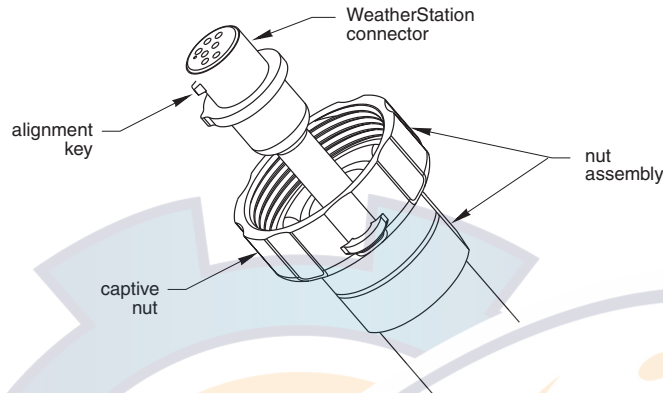

Figure 5. Connector
6. With the nut assembly on the cable near the WeatherStation connector, thread the cable through the extension tube (if used), antenna mount, and the cable exit. Allow several inches of cable topped by the connector above the nut assembly (see Figure 5).
9. **Be sure** the alignment tabs on the WeatherStation are facing forward and parallel to the keel (centerline) of the boat (see Figure 4). Slide the captive nut upward and screw it onto the base of the WeatherStation (see Figure 5). **Hand-tighten only.** Do not over tighten. **Be careful NOT** to rotate the WeatherStation or loosen the nut assembly from the antenna mount/extension tube. **Double check to be sure** the alignment tabs are still facing forward.